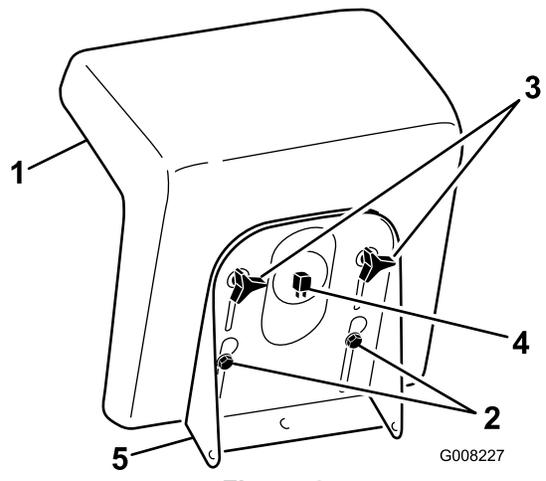

Figure 6
1. Position the seat onto the seat base by inserting 2 shoulder bolts through the key hole openings at the end of both slots (Figure 6).
2. Thread the knobs and flat washers through the slots and into the rear center holes in the seat (Figure 6).
4. Connect the seat switch to the wire harness connector (Figure 6).